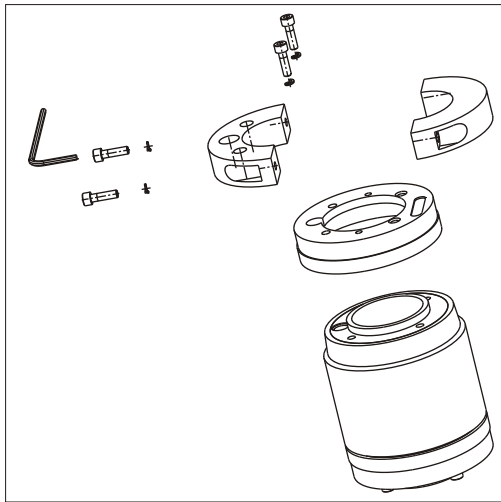

Figure 5: Removing the Side Clamps and Cover from the Air Chuck Body.
1. First remove the clamp from the Air Chuck by removing two 8 mm Allen Bolt (6mm Allen Key). As shown in the figure 5 the clamp will be separated from the body.